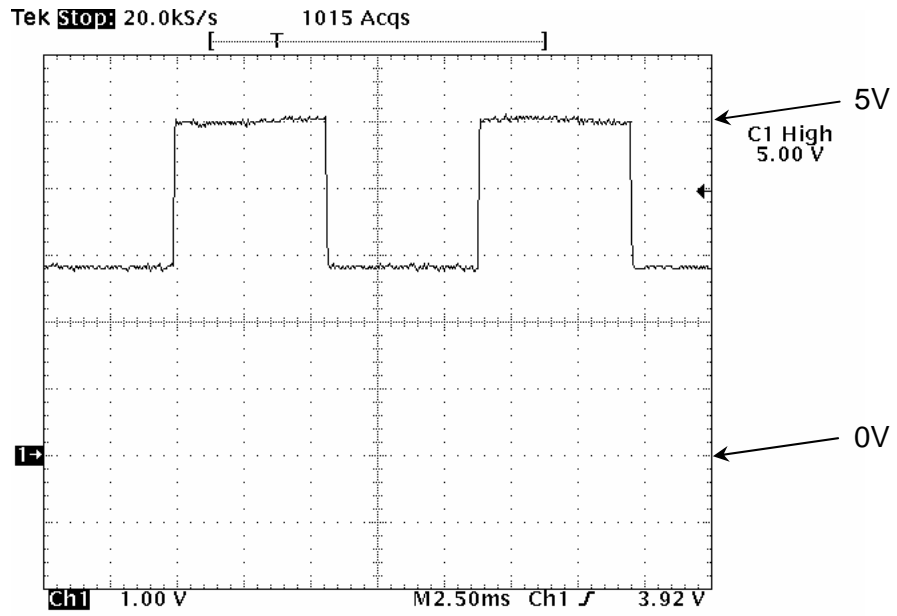

Figure 2 – Oscilloscope Screen
7. The oscilloscope should display a square wave with a 5 volt peak and look similar to Figure 2 on the page 3.